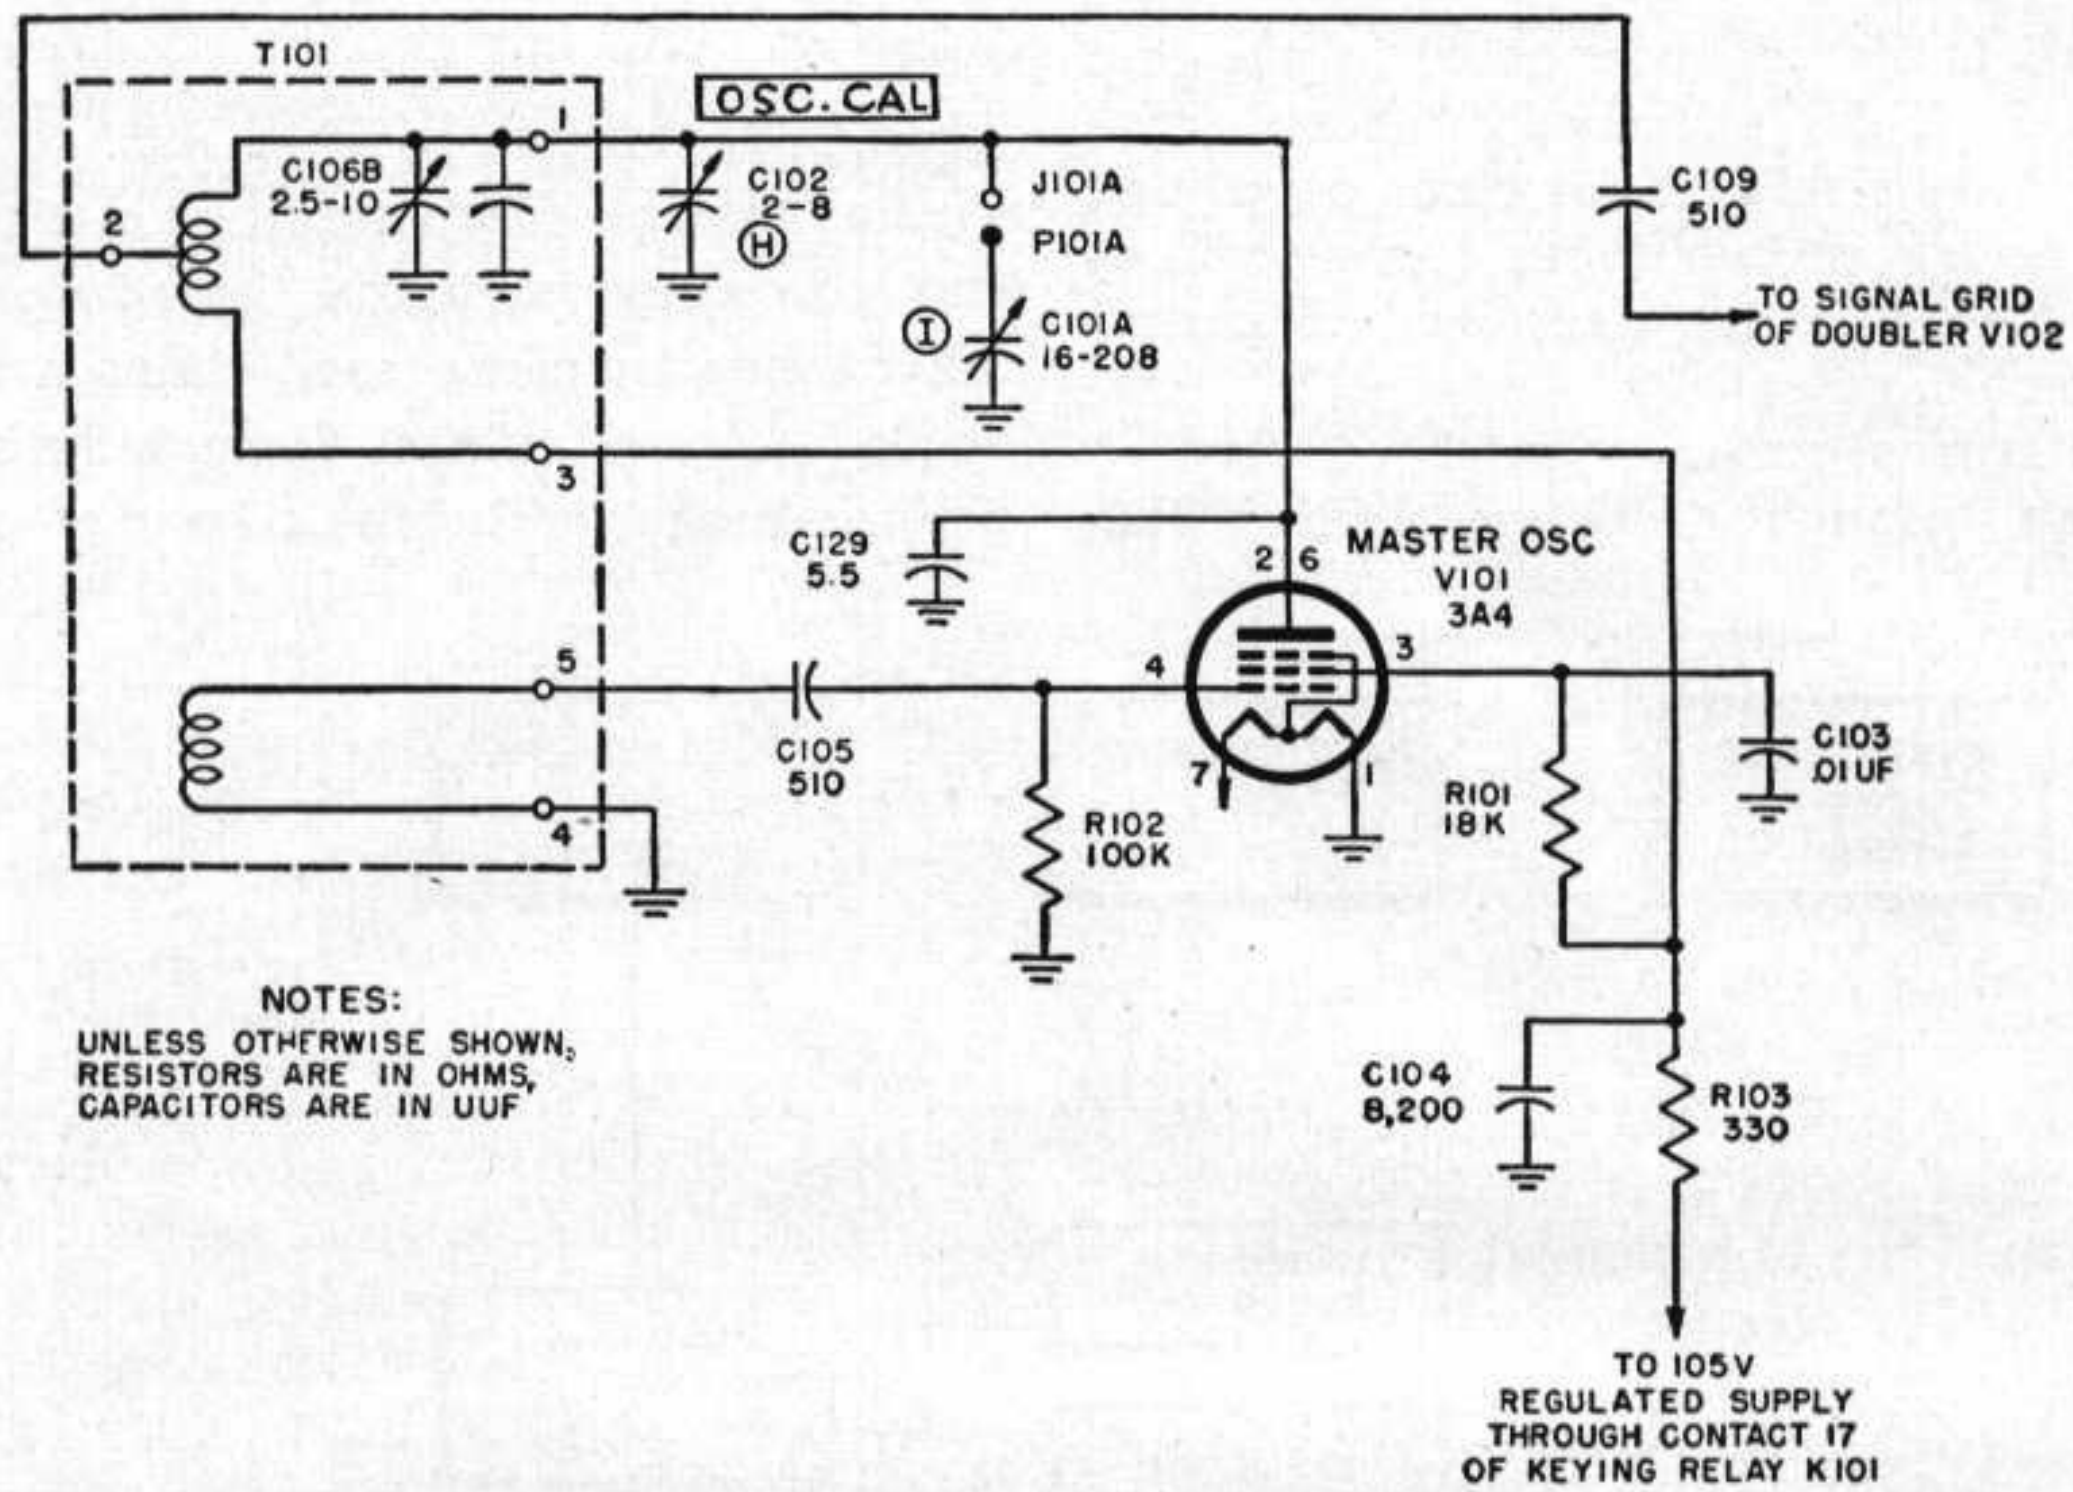

Figure 67. Transmitter master oscillator, simplified schematic.
90. Master Oscillator (Noncrystal-controlled) Tube V101, Tube Type 3A4 (fig. 67)